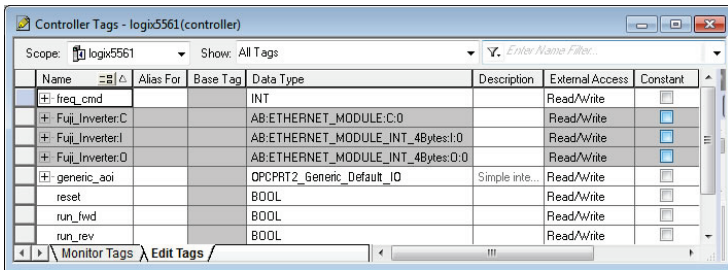

Figure 59: Create Generic Default AOI Tags
- 4) Create the tags in Figure 59.